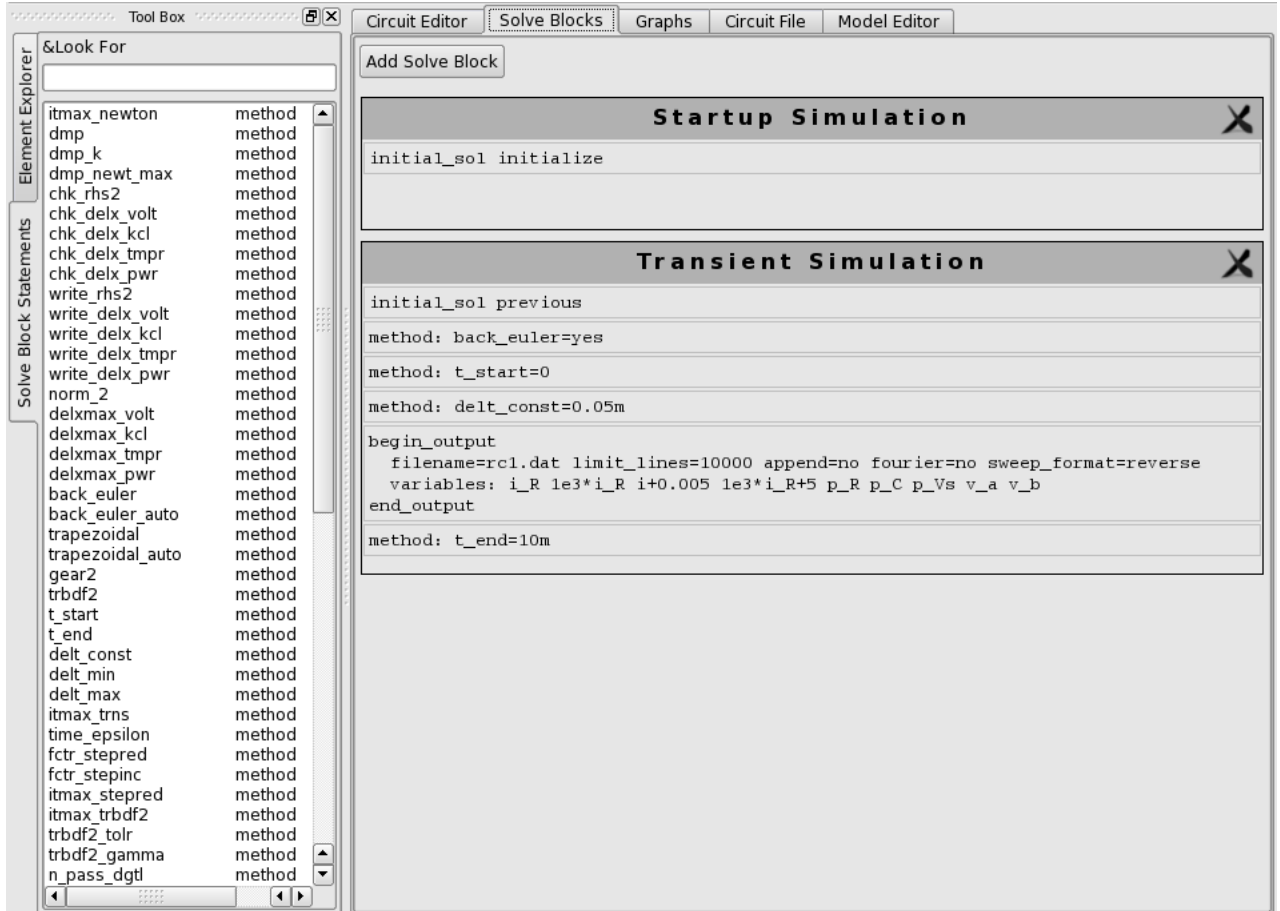

Figure 4: Snapshot showing solve blocks.
- (iii) Click on the “solve blocks” tab to view the details of the analyses which have been requested for this circuit (see Fig. 4). In the “output blocks” of the solve sections, you will find a list of output variables, a subset of those you would have seen in (ii) above. On execution, SEQUEL would make these variables available in the file specified in the output block. The output file is written to the directory `/SequelGUI2_Release/SGUI/Output`.